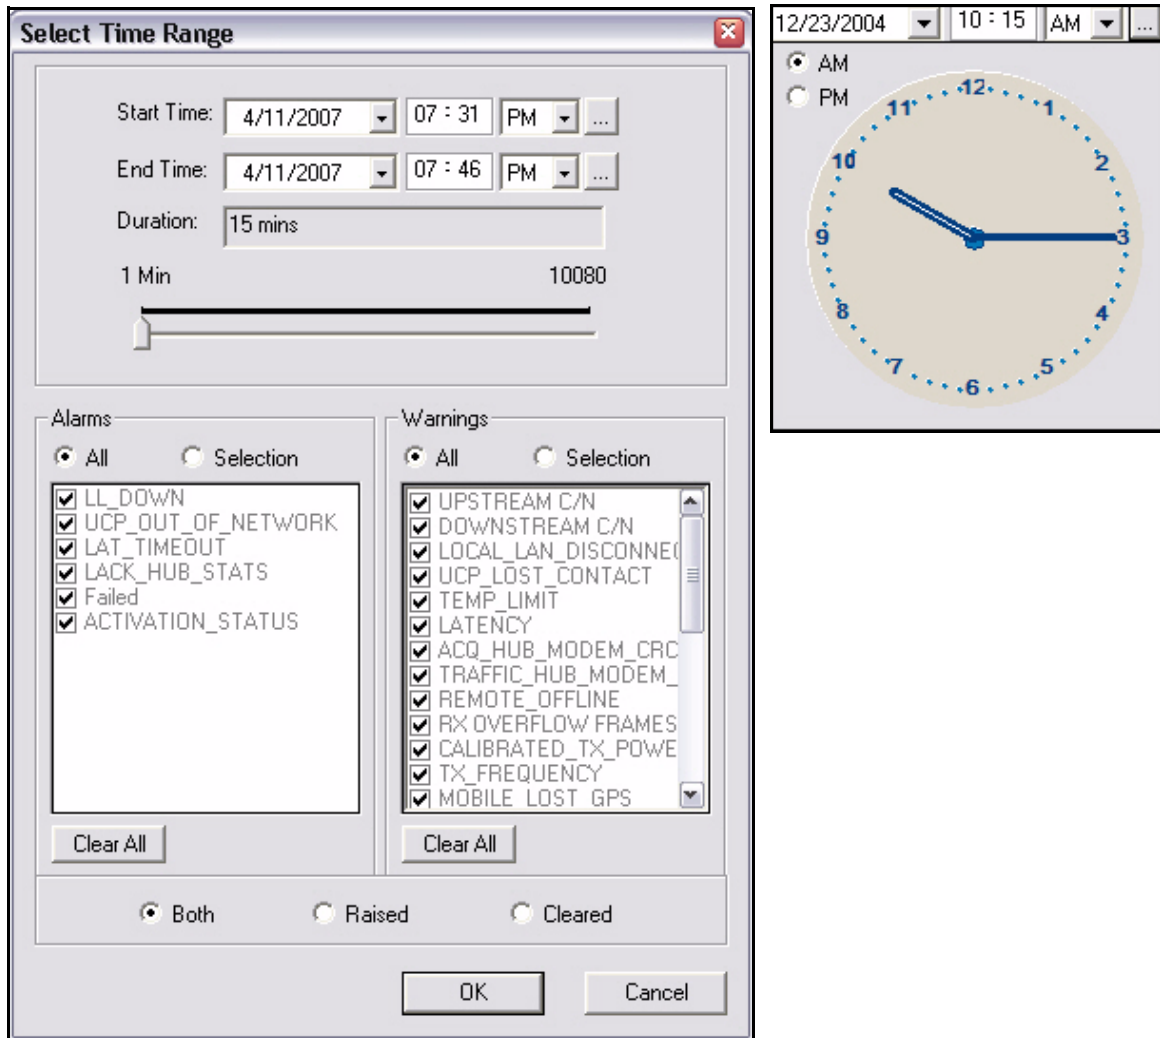

Figure 3-1: Conditions Time Range
- a If you click **Historical**, click **Time Range**. The **Select Time Range** dialog box appears (see Figure 3-1 for Conditions and Figure 3-2 for Events). If desired, click the ellipses next to the Start and End times to set the time via the graphical clock display. If you selected **Get Past**, see Step b.